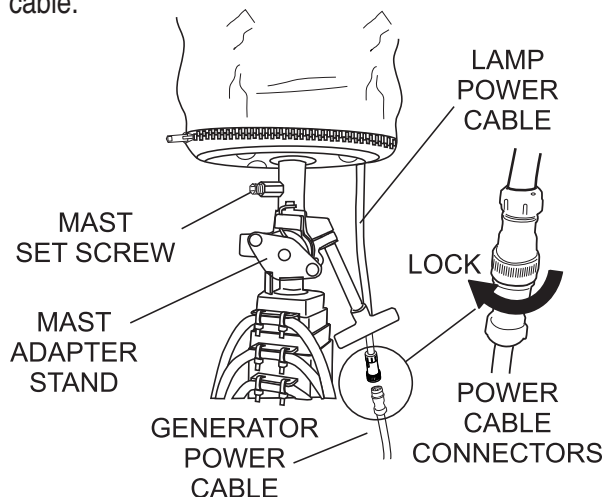

Figure 11. Mast Set Screw/Power Connections
- For circular positioning, swing the lever to the desired position. See insert B in Figure 11.
6. Before raising the mast, make sure the mast set screw (Figure 11) is securely tightened (use an 5mm-allen wrench to tighten). This will prevent the balloon/lamp assembly from falling off. In addition make sure the power cable from the generator is connected to the lamp power cable.